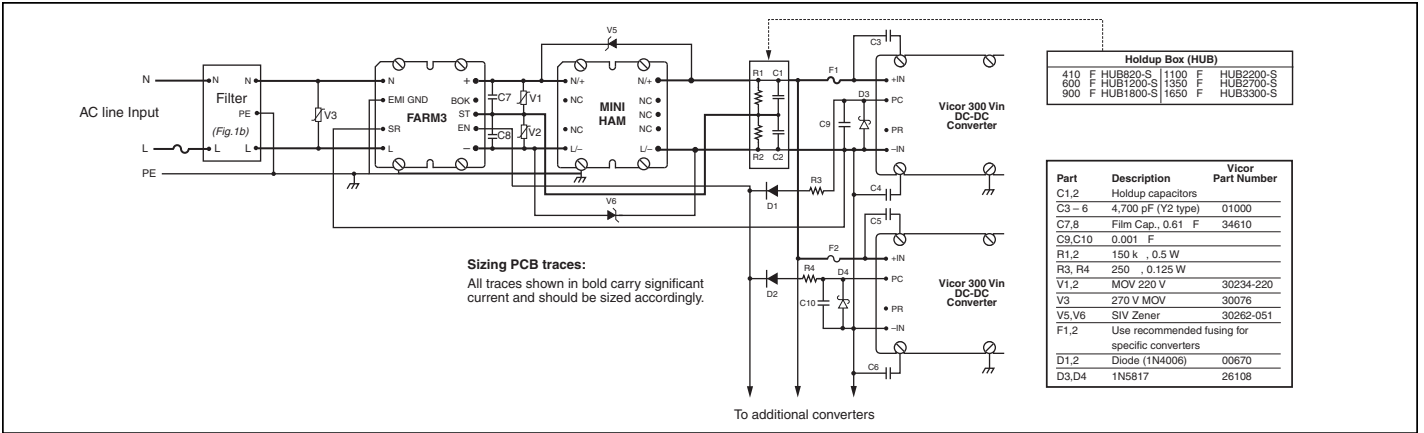

Figure 1a — Offline Power Supply Configuration
Electrical characteristics apply over the full operating range of input voltage, output power and baseplate temperature, unless otherwise specified. All temperatures refer to the operating temperature at the center of the baseplate. Performance specifications are based on the ENMod system as shown in *Figure 1a*.
■ ELECTROMAGNETIC COMPATIBILITY (configured as illustrated in Figures 1a and 1b)
The ENMod system provides transient/surge immunity, harmonic current attenuation and EMI filtering, in addition to all of the power switching and control circuitry necessary for autoranging rectification, inrush current limiting, and overvoltage protection. Converter enable and status functions for orderly power up/down control or sequencing are also provided. To complete the AC front-end configuration, the user only needs to add hold-up capacitors, a simple EMI filter, and a few discrete components (see Fig. 1a).
(see Figures 1a, 18a and 18b)
(see Figures 1a, 18a, and 18b)
It should be noted that the series combination ($C1$, $C2$, see *Figure 1a*) requires each capacitor to be twice the calculated value, but the required voltage rating of each capacitor is reduced to 200 V.